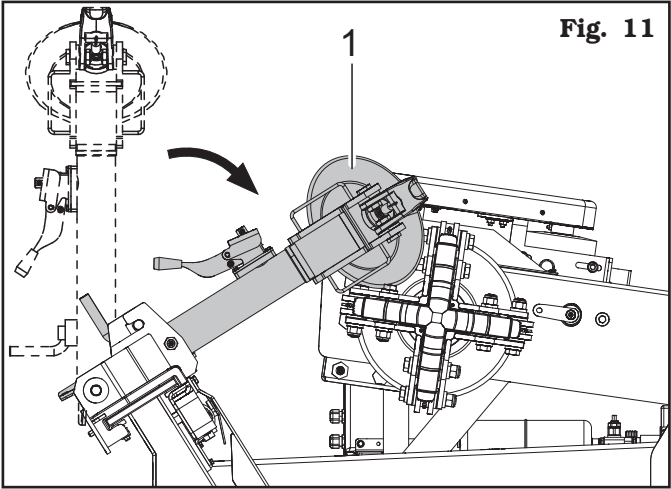

Fig. 11
In "working" position (**Fig. 11 ref. 1**) the tool holder arm is lowered towards the mandrel and from this position it executes the various tyre bead breaking, demounting and mounting operations.
- Once external beading has been carried out, unhook and lift the tool holder arm placing it in "off-work" position (Fig. 12 ref. 1); use the handle control to position the tool holder arm on the inner side of the wheel, then place it in work position (Fig. 11 ref. 1) and secure it with the special coupling lever.
- Once the external bead has been removed, move tool holder arm away from the wheel, unhook it and lift it bringing it in "off-work" position (**Fig. 12 ref. 1**); use the handle control to position the tool holder arm on the inner side of the wheel then place it in work position again (**Fig. 11 ref. 1**) and secure with the coupling lever provided.